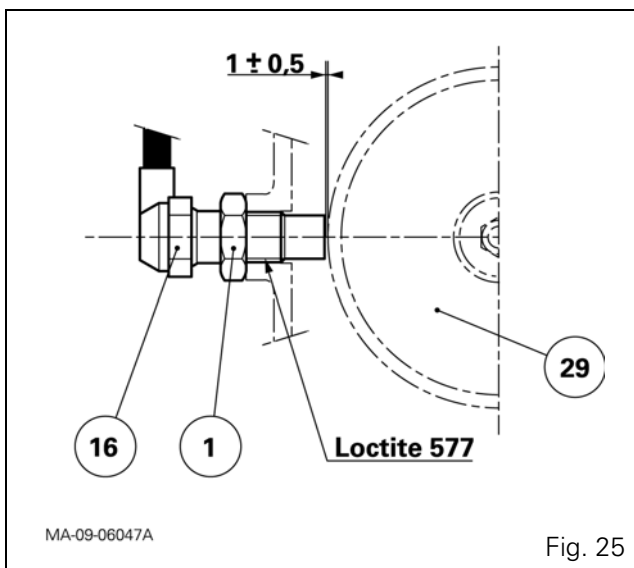

Fig. 25
113. Fit the engine speed sensor (16), having lightly smeared the threads with Loctite 577 or equivalent (Fig. 25).